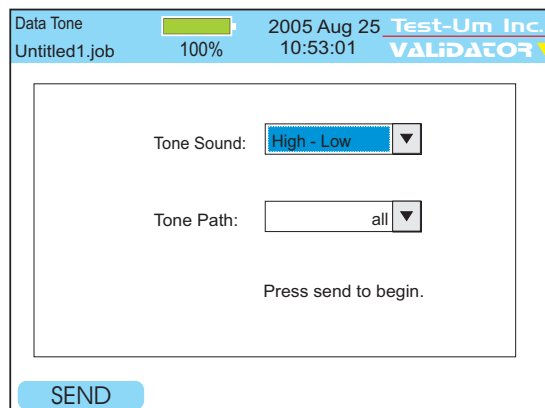

Figure 5.6 Tone Generator
4. Select the desired **Tone Sound**. Press Accept. The cursor moves to the Tone Path dialog box. (Figure 5.6)